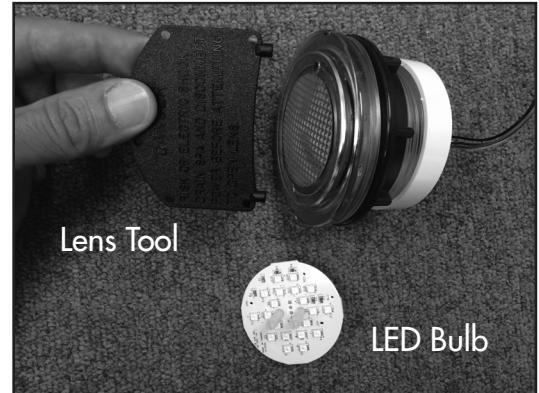

Figure 4
3. Open the lens of the fixture using ONLY the proper tool provided for that purpose (see Figure 4). Do not attempt to remove the lens without the provided tool.